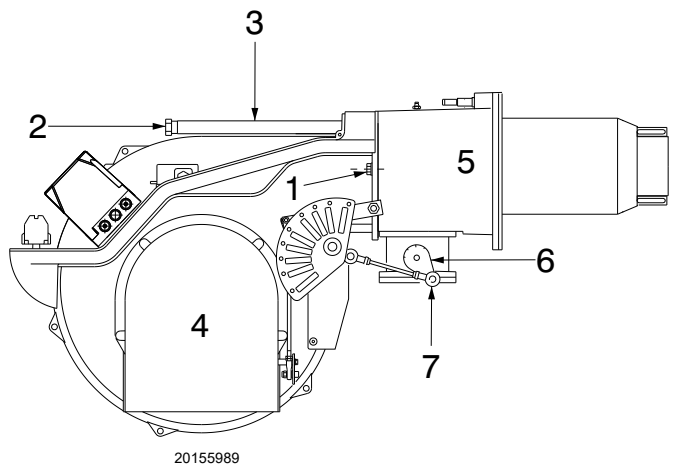

Fig. 17
- insert the cables of the probe and electrode, then slide the burner as far as the pipe coupling, the burner in the position indicated in Fig. 17;